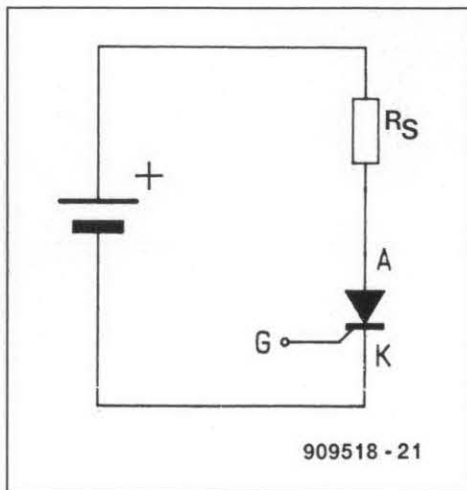

Fig. 12. Basic connection of a thyristor.
Figure 12 shows the circuit symbol of a thyristor. Thyristor is the original name of the solid-state equivalent of the thyatron valve, but is now more commonly called silicon-controlled rectifier (SCR). A version of the SCR for switching a.c. is the triac, which is discussed further on.
The anode-cathode (A-K) junction of a thyristor is normally blocked, so that series resistor  $R_S$  does not pass current (see Fig. 12). When a positive voltage,  $U_{GK}$ , of about 1 V is applied to the gate terminal (G), the gate-cathode junction becomes conductive, and passes a current. This gate current is usually denoted by the term triggering current,  $I_{GT}$ , and is not dependent on the anode voltage or the anode currents. When  $I_{GT}$  exceeds a certain value (the trigger threshold) the thyristor is triggered ('fired'), and the anode-cathode junction conducts. Current will keep flowing through this junction even when the gate current is removed. The current is interrupted, however, when it drops below a certain level, the holding current,  $I_H$ .